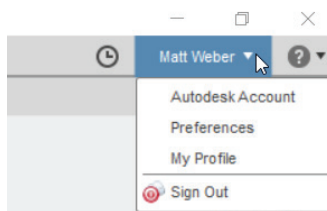
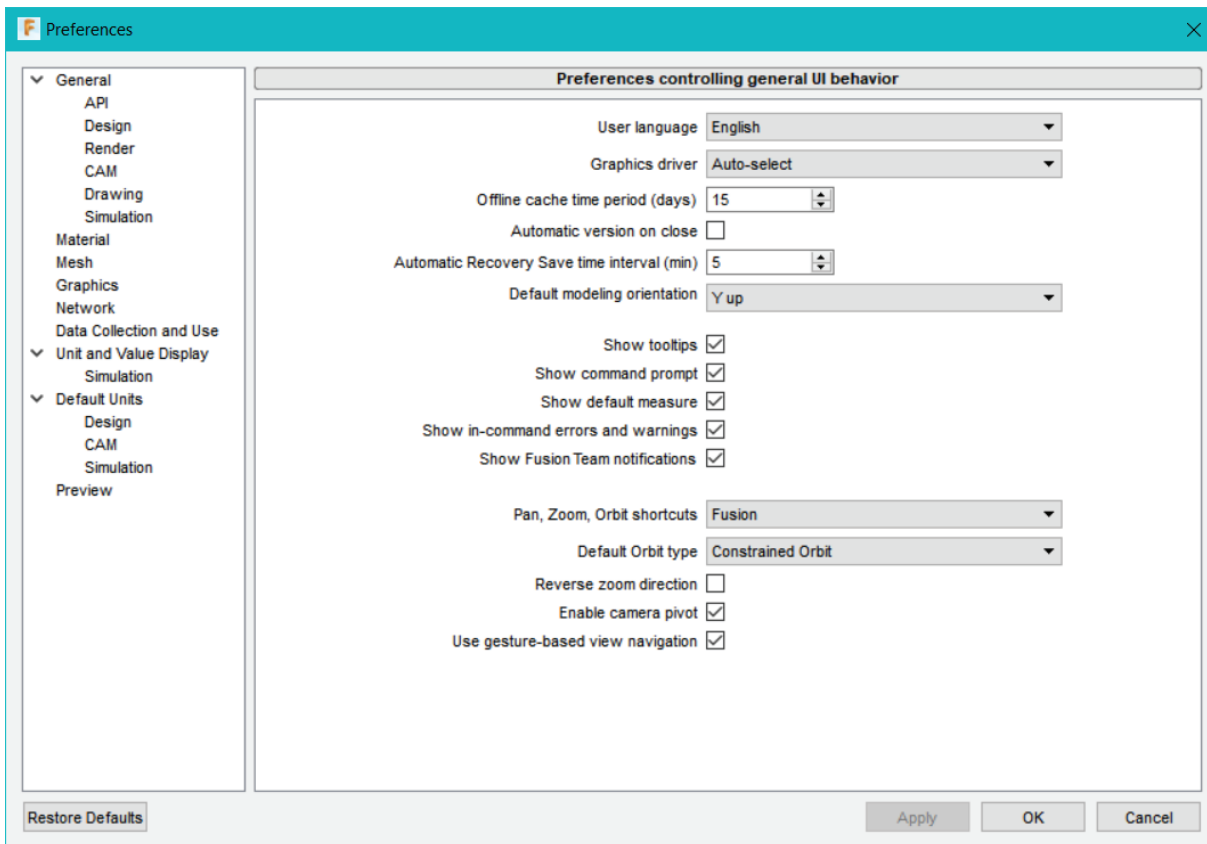

Figure-69. User Account drop-down
Figure-70. Preferences dialog box
The tool in **User Account** drop-down are used to manage user account details and preferences for Autodesk Fusion 360; refer to Figure-69. The tools in this drop-down are discussed next.
- Click on **Preferences** tool from **User Account** drop-down; refer to Figure-69. The **Preferences** dialog box will be displayed where you can specify various parameters for application; refer to Figure-70.